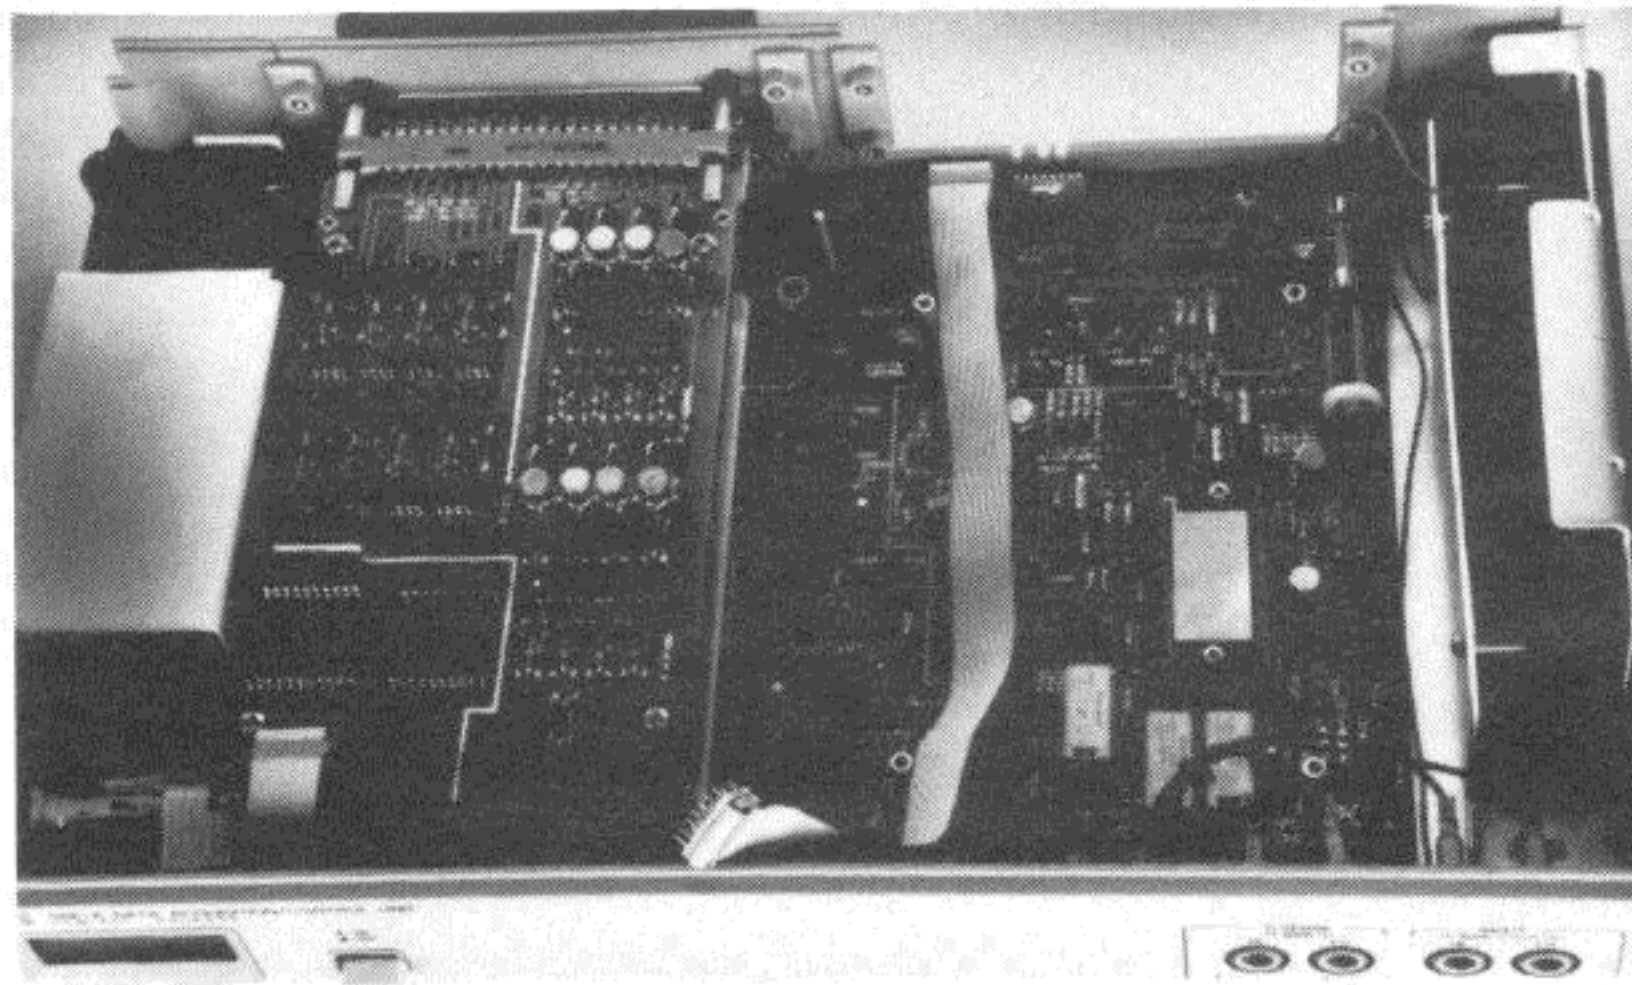

Figure 3-2-7. Slot 0 Option Cable Routing
- b. Route the ribbon cable for the slot 0 option as shown in Figure 3-2-7.